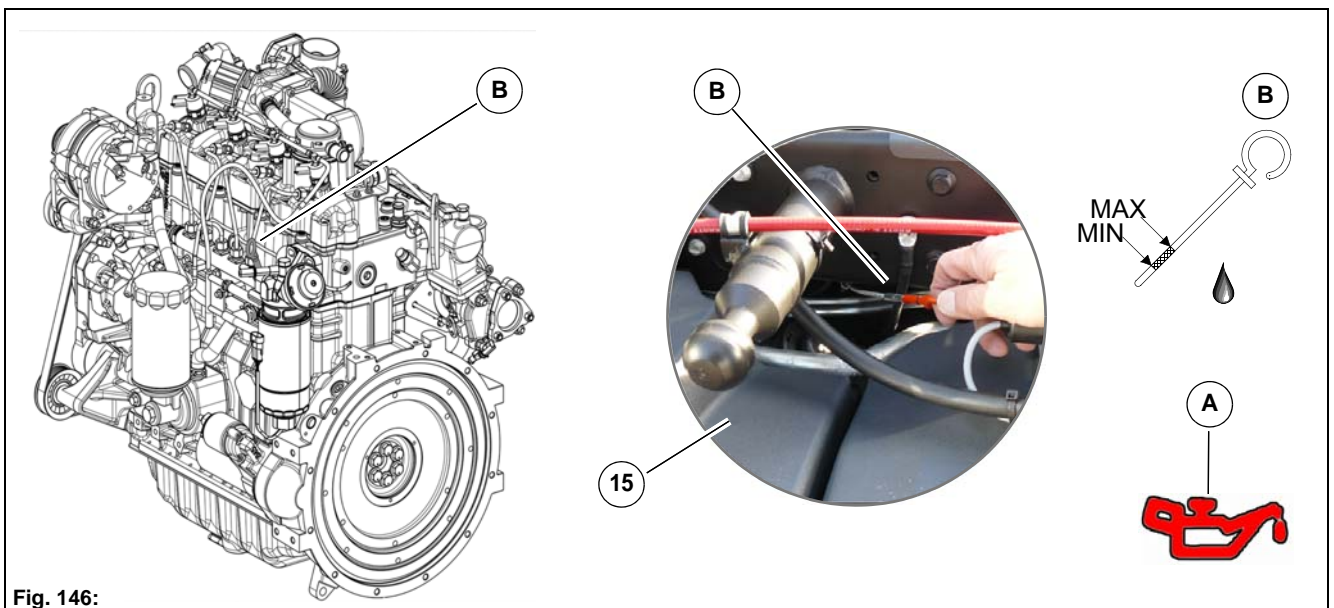

Fig. 146:
3. The engine oil dipstick **Fig. 146-B** is located on the left-hand side of the vehicle behind the fuel tank **Fig. 146-15** and can be accessed from the outside.
- If the engine oil pressure warning light **Fig. 146-A** lights up